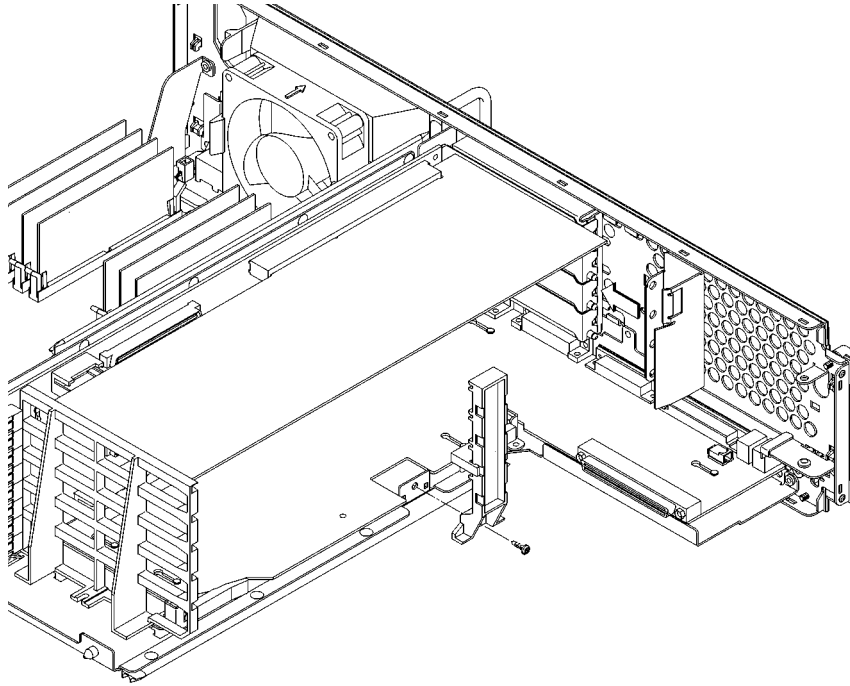

Figure 54 **Installing the EISA Retainer and EISA Slider**
- 9 Replace the EISA retainer and its screw, as shown in Figure 54.
- 10 Replace the EISA slider, as shown in Figure 54.